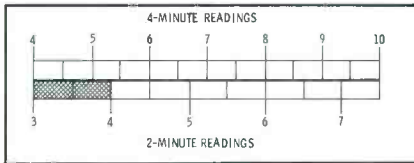

Fig. 5. Comparative readings taken at 2 and 4 min. establish CRT condition given to make the percentage calculation easier.
**Final comparison:** To fall within acceptable limits, all readings must be within the green-scale area; the four-minute reading of any gun must be no greater than 1.5 times that of any other gun; furthermore, all readings taken after two minutes must be within 75% of the reading obtained for the same gun at four minutes. A chart (see Fig. 5) is